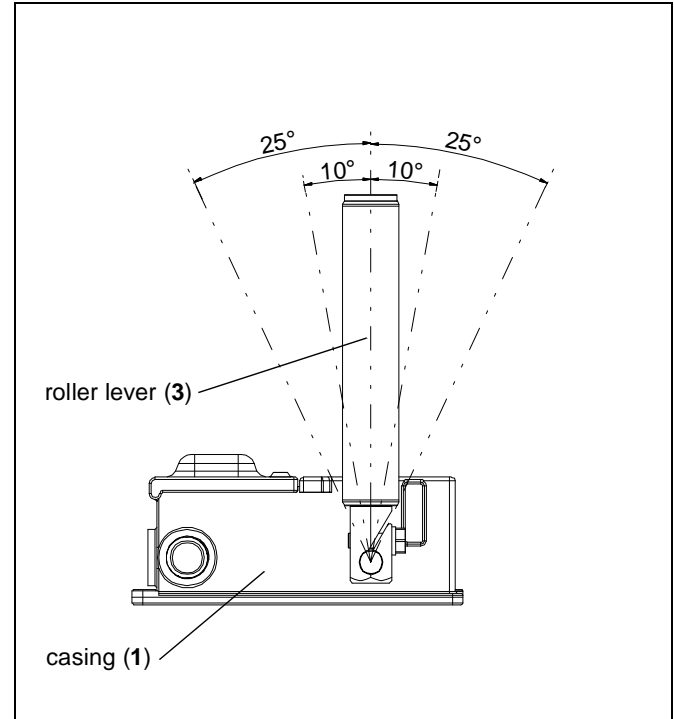

Fig. 3-1: Misalignment switch type MRS 001
Conveyor belt misalignment switches type MRS 001 are provided with two switching points each for both deflection directions of the roller lever (3) (s. fig. 3-1). If the roller lever (3) is deflected about  $10^\circ$  an early warning is generated. If the roller lever (3) is deflected about  $25^\circ$ , the misalignment switch actuates a final shutdown of the conveying plant.